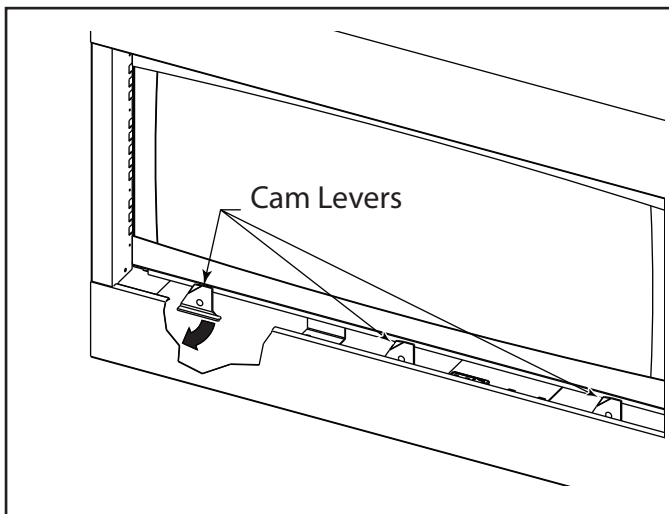

Figure 4.2 Cam Levers
2. Rotate the three (3) cam levers in the lower access area 90° clockwise. See Figure 4.2.